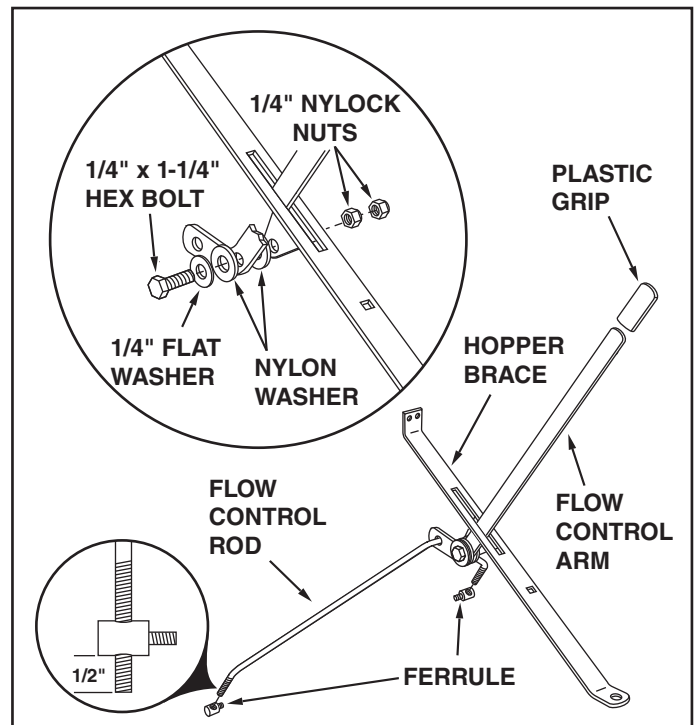

FIGURE 21
29. Assemble the plastic grip onto the end of the flow control arm. See figure 21.
30. Insert the flow control arm through the slot in the hopper brace. Place a nylon washer on each side of the arm and attach it to the brace's welded bracket using a 1/4" x 1-1/4" hex bolt, a 1/4" flat washer and two 1/4" nylock nuts. **Tighten** the first nylock nut until there is noticeable resistance when moving the flow control arm, then **tighten** the second nylock nut. See figure 21.
31. Place the flow control rod through the hole at the end of the flow control arm. Assemble the two ferrules onto the threaded ends of the rod so that approximately 10 threads (1/2") of the rod extends through the ferrules. See figure 21.